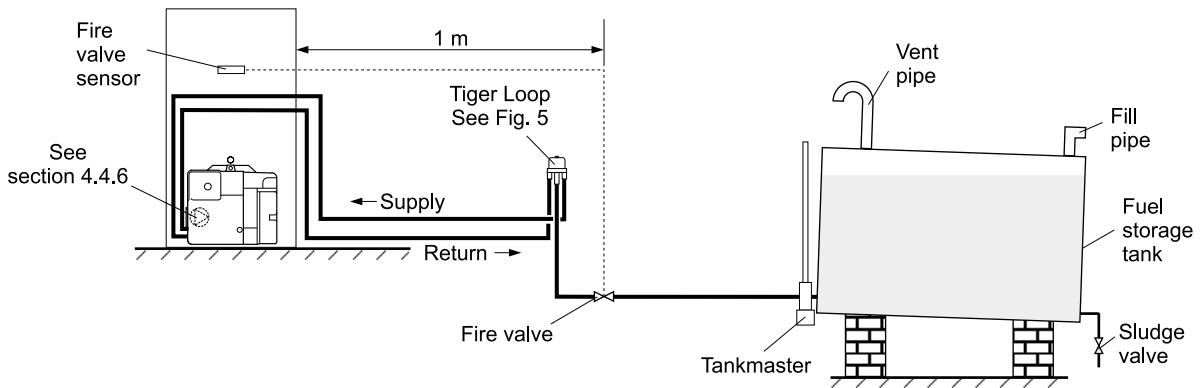

Fig. 4 - Tiger loop system
4.4.5 Tiger Loop system - (See Figs. 4 and 5)
- 2 The Tiger Loop is connected close to the boiler as a two pipe system (omitting the non-return valve) as shown in Fig. 4. Refer to the manufacturers instructions supplied with the Tiger Loop. The Tiger Loop **must** be mounted vertically.